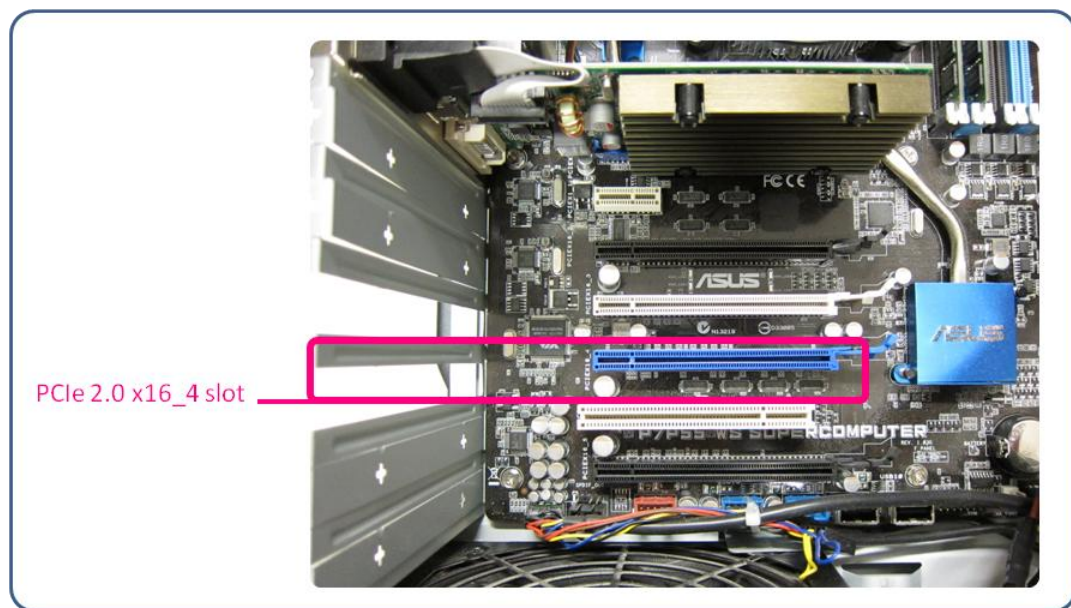

Figure 11: PCIe slot for SPEC-Fine Delay
- 2) Plug the SPEC-Fine Delay combination into the computer slot indicated in Figure 11. Use the provided screws to mount it to the computer box.